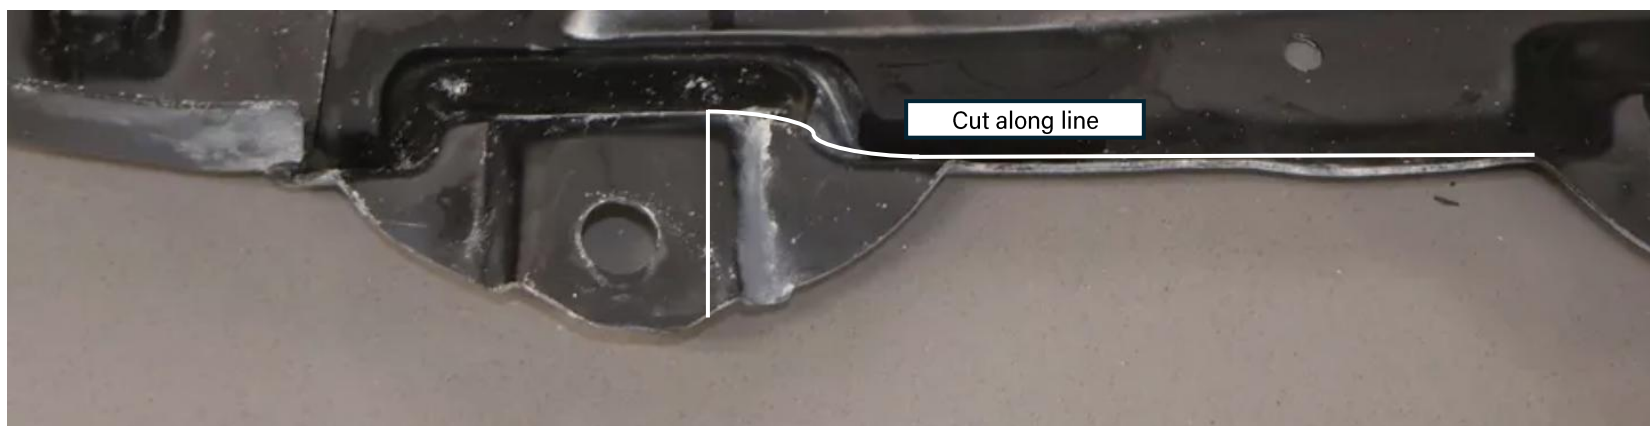

Figure 18: Rear-most gas tank skid plate mount before clearance cut
13. To accommodate the new frame brackets on the passenger side, one of the gas tank mounts must be trimmed. Please see Figure 18 for a template on where to cut the rear-most frame rail mount on the tank. Use a cut-off wheel to make the cut. **REMOVE THE GAS TANK OUT OF THE SKID BEFORE CUTTING.**